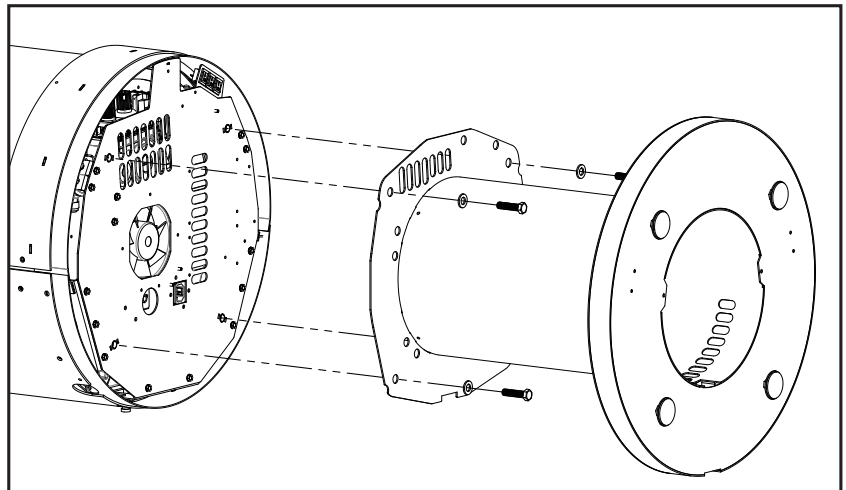

Figure 80: Pole Pedestal Installation
The pole pedestal comes packaged with four (4) hex head bolts and four (4) washers used to secure the pedestal onto the unit. Align the pedestal vent slots with those on the bottom of the unit. Fasten the pole pedestal to the unit using the same threaded holes that the leveling legs were installed in (see Figure 80).